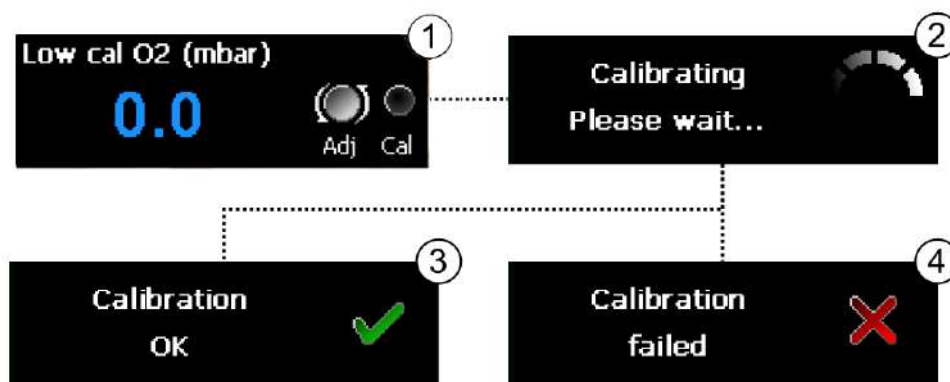

Figure 41 Low calibration gas adjustment (mbar)
With the Low or High calibration selected within the menu, the calibration value entry panel will be shown (Figure 41 ①) and the value coloured blue. Rotating the adjustment knob allows the calibration value to be increased or decreased. The adjustment knob should be rotated until the known concentration of the calibration gas is displayed.
Once an adjustment has begun the sensor will take a moment to process the adjustment request (Figure 41 ②) and will decide whether the value supplied is reasonable. See troubleshooting (Section 7) for possible invalid calibration conditions.
If a calibration adjustment is accepted, then a 'Calibration OK' message will be shown (Figure 41 ③)
(**Figure 41** ) Both of these messages can be cleared by pressing the mute button.